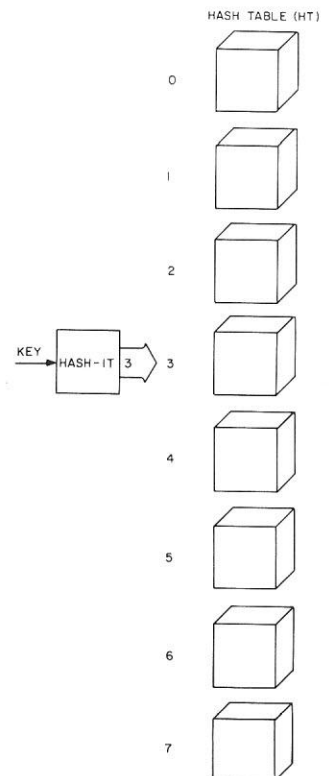

Fig. 2.
In using HASH-IT, each HASH-VALUE produced points into an array called the HASH TABLE (HT). For example, a HASH-VALUE of 3 is shown in Fig. 2. In turn, the contents of each element of the HASH TABLE point to an element of the STORAGE ARRAY (SA), which holds the data and their